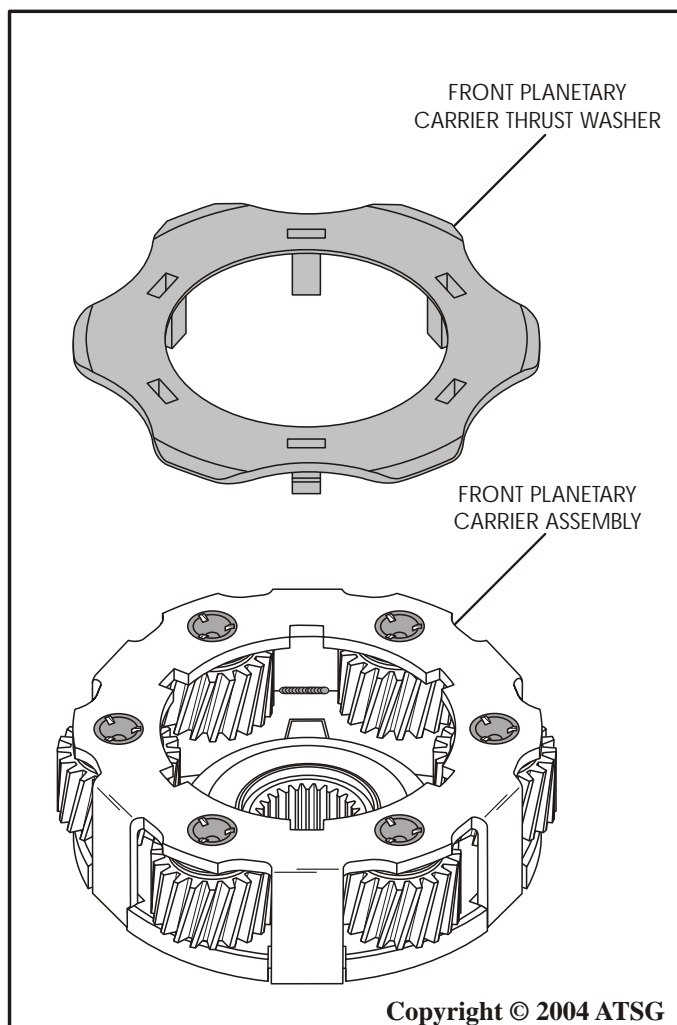

Figure 102
1. Inspect the front planetary carrier carefully for any wear and/or damage (See Figure 102).
3. Inspect the front planetary carrier thrust washer for any wear and/or damage (See Figure 102).
5. Install the front planetary carrier thrust washer by "Snapping" the tabs into place, as shown in Figure 102.